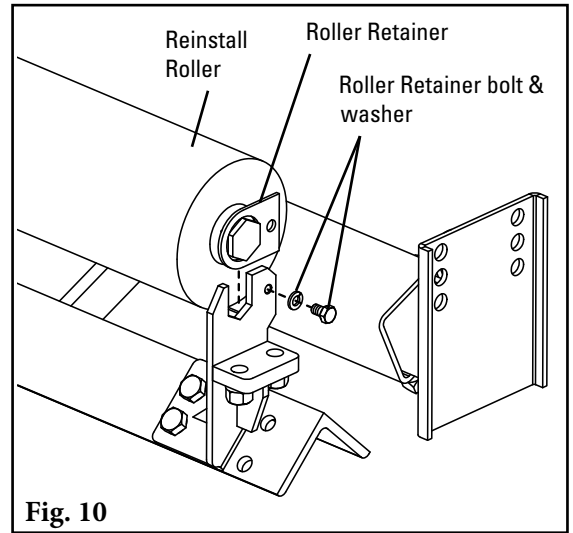

Fig. 10
- 10. Reinstall roller and re-bolt roller retainer (Fig. 10).